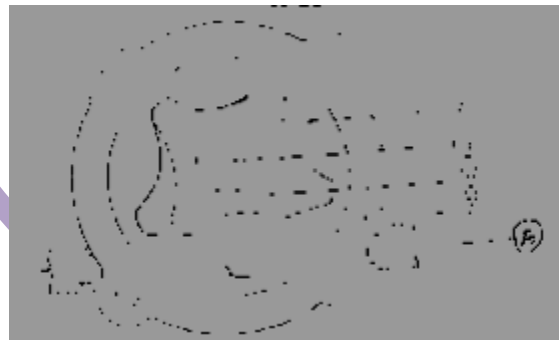

FIGURE 3
2.4 FIGURE 3, DIAGRAM SHEET 1 (attached) shows a sketch of the oil pump of an internal combustion engine.